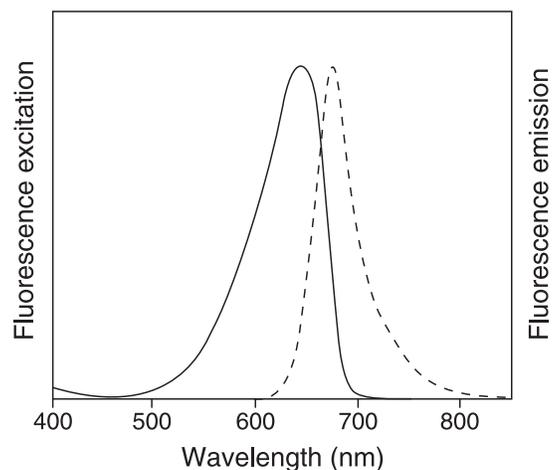
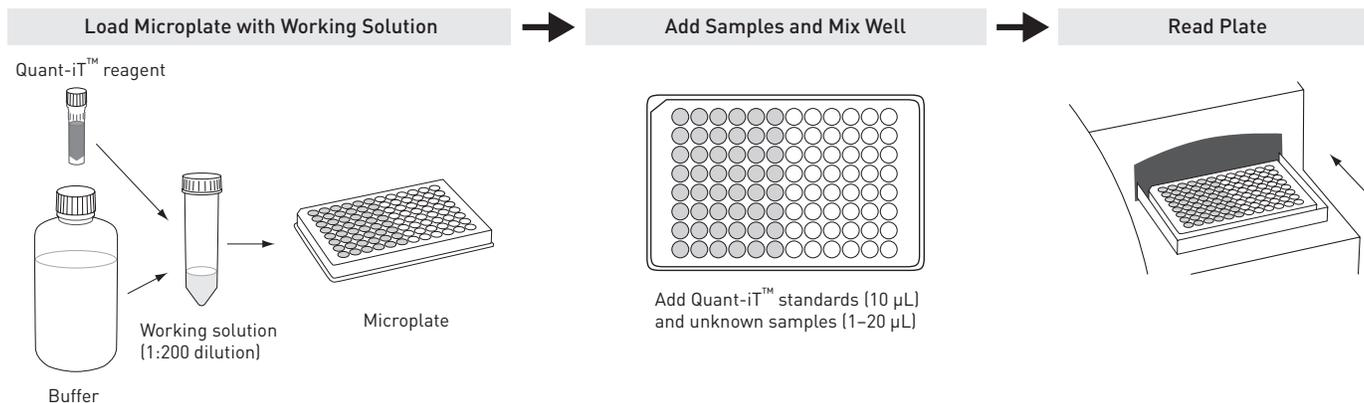

Figure 1. Excitation and emission maxima for the Quant-iT™ RNA reagent bound to RNA.
Figure 3. The Quant-iT™ RNA assay.
Approximate fluorescence excitation/emission maxima: 644/673 nm (see Figure 1, page 2)
This protocol describes the use of the Quant-iT™ RNA Assay Kit with a fluorescence micro-plate reader equipped with excitation and emission filters appropriate for the Quant-iT™ RNA reagent (excitation/emission maxima 644/673 nm; see Figure 1, page 2). Some contaminating substances may interfere with the assay; see *Contaminating substances*, page 7, for more information. For an overview of this procedure, see Figure 3, below.
- 1.5 Measure the fluorescence using a microplate reader (excitation/emission maxima are 644/673 nm; see Figure 1, page 2). The fluorescence signal is stable for 3 hours at room temperature.